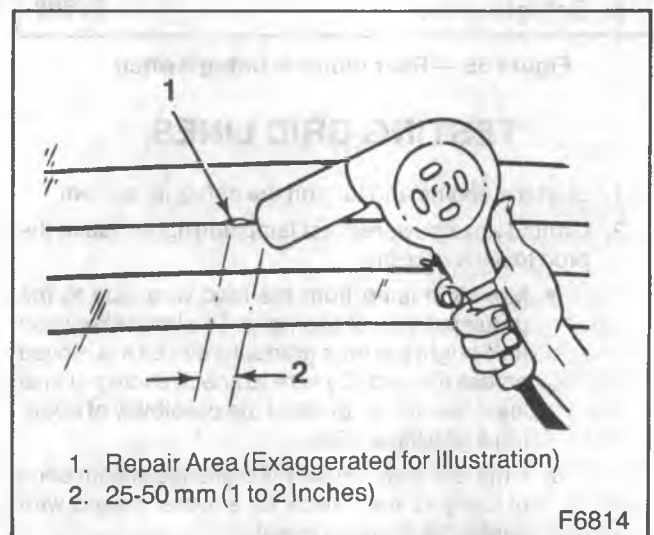

Figure 58 — Applying Heat to Grid Line Repair
4. Holding the heat gun 25 to 50 mm (1 to 2 inches) from the repair area, apply heat at 260°-370°C (500° to 700°F) for 2 to 3 minutes (figure 58).